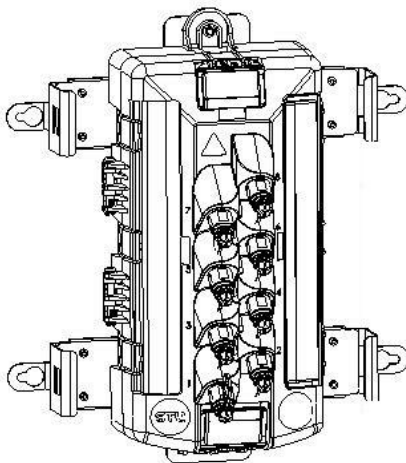

Fig. 12a
- Install with brackets as shown in Fig. 12a using the mounting features at the top and bottom of the closure